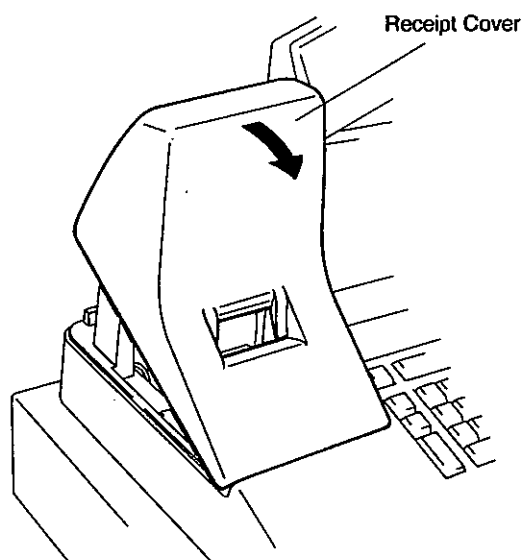

Fig. 1
- 1) Remove the Receipt Cover. (Fig. 1)